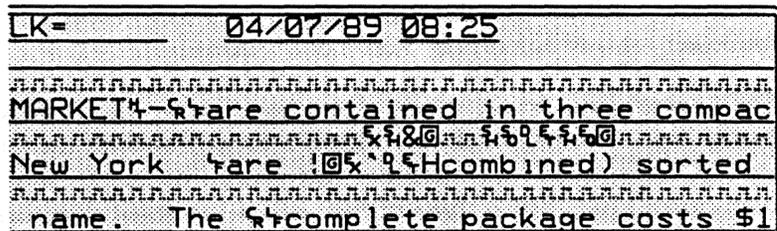

Figure 5-8 Dual line display.
In dual-line display (Figure 5-8), DTE (TD) data begins on the first data line. DCE (RD) data (always underlined>) is shown on alternating lines beginning with the second data line. When one of the data leads is idle, time correlation with the other lead is maintained by this time-fill symbol: . See Figure 5-8.